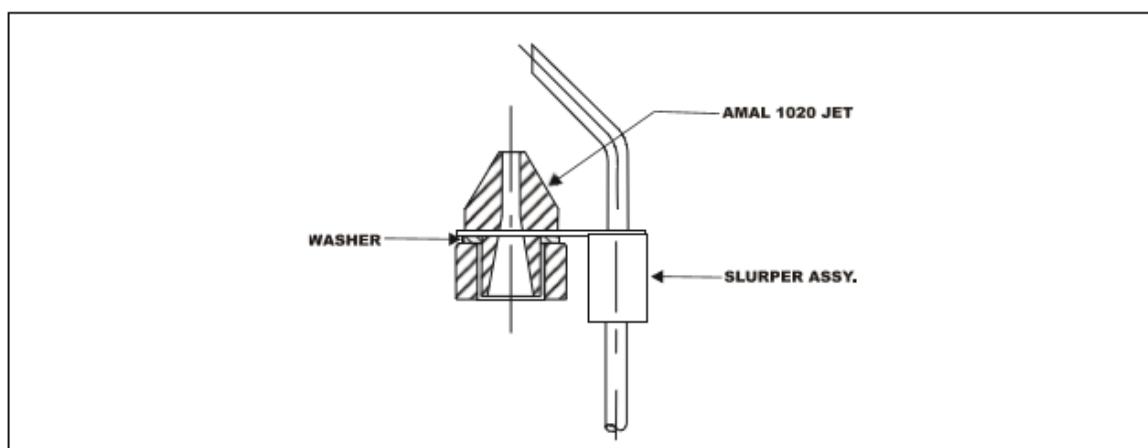

FIG. 6.29b
- 3) Install the slurper mounting bracket, main burner jet and jet washer as per FIG. 6.29b. Torque the jet to 150 inch pounds.